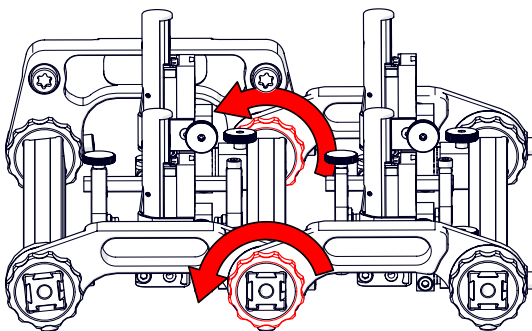

Fig. 136 - Loosen red probe holder frame nuts
1. Loosen two probe holder frame nuts (*Fig. 136*).